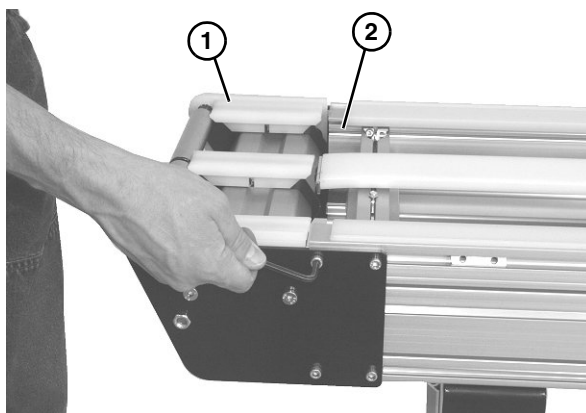

Figure 60
*When reinstalling the idler spindle tail assembly, the idler terminal assembly (**Figure 60, item 1**) should mate flush with the conveyor frame (**Figure 60, item 2**).*